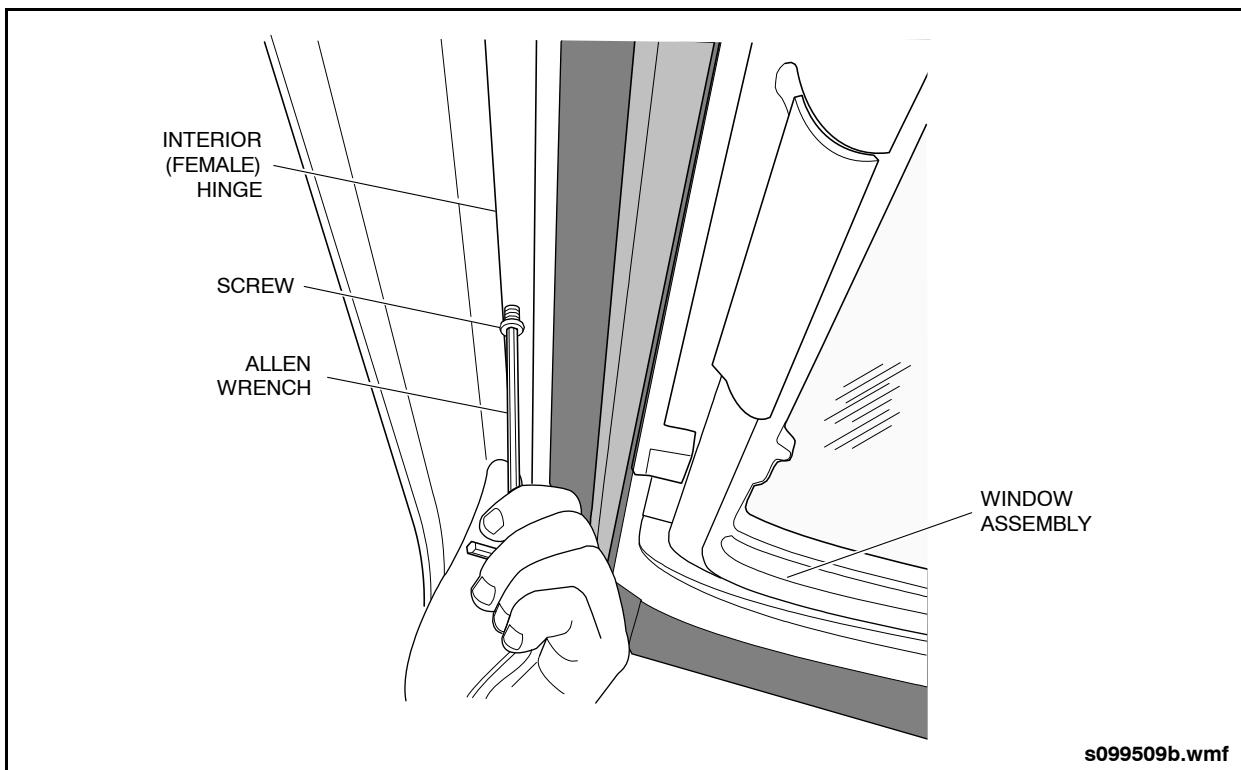

Fig. 14-9: Subframe Screw Removal
1. Remove the centering screw from the female hinge attached to the top of the sub frame. Activate the emergency release handle and open the main frame. Use a prop rod to safety support the window in the open position. Use an Allen wrench to remove the (2) 10 - 24 UNC screws from the underside of the subframe. See "Fig. 14-9: Subframe Screw Removal" on page 11.